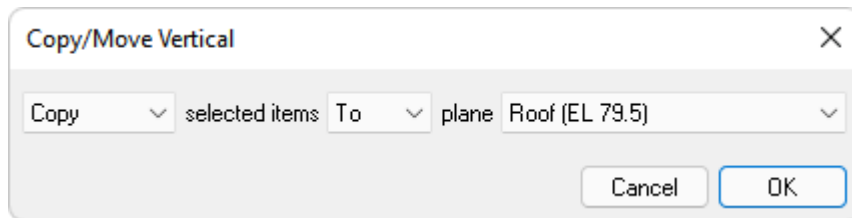

FIGURE 10-3
- Go to *Modify* → *Copy/Move* and click on the **Copy/Move Vertical**  icon. This will open the *Copy/Move Vertical* window as shown in **FIGURE 10-3**.